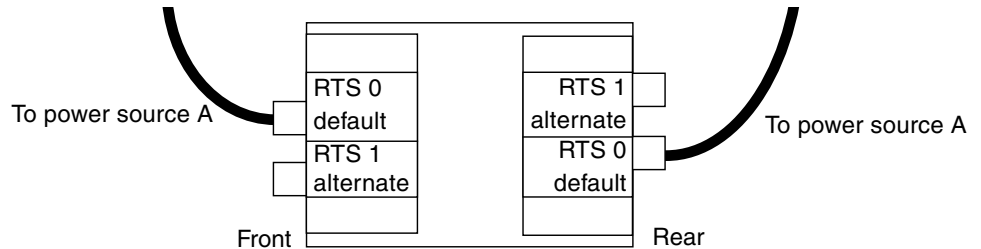

FIGURE 3-3 Sun Fire E6900 Configuration: Two RTU Assemblies and One AC Power Source
- In configurations with two RTU assemblies and one AC power sources there will be two cables to connect, one in the front (on the left), and one in the rear of the system (on the left) (FIGURE 3-3).